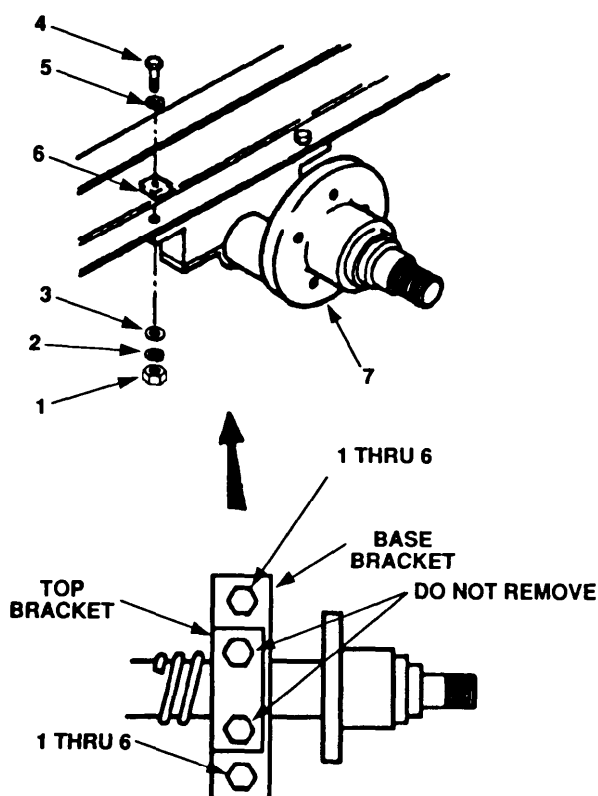

Figure 5-17. Axle Assembly Maintenance.
- c. Remove four nuts (figure 5-17, 1) lockwashers (2), washers (3), bolts (4), washers (5) and beveled washers (6).
- d. Axle assembly (7) is now free from frame. Remove axle assembly (7) from supports and move free of frame.
- a. With frame positioned on assembly stand, raise axle assembly (7) into position under frame.
- b. Install beveled washers (6), washers (5), bolts (4), washers (3), lockwashers (2), and nuts (1).